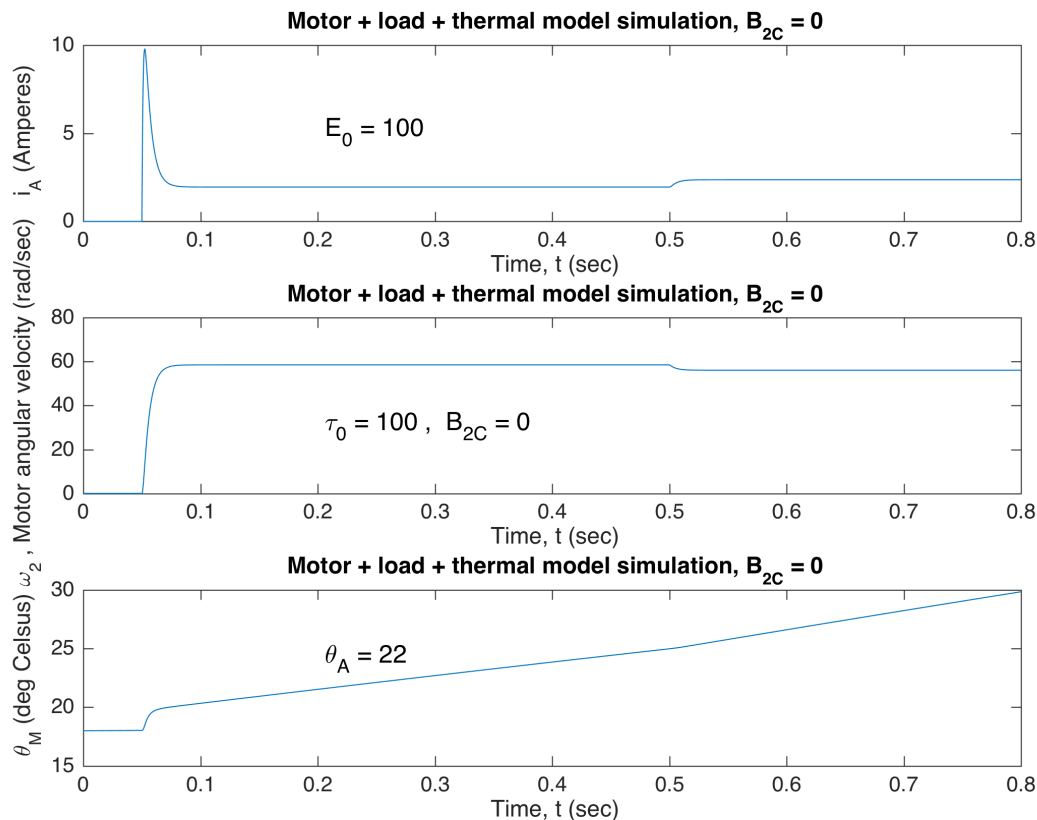

Figure 1: MATLAB plot similar to yours for Q. 2
2. Run your model for 1.2 seconds, with e_{in} defined as a 120 volt step applied at $t = 0.05$ sec. and τ_{LE} defined as a 80 N-m step applied at $t = 0.5$ sec., using `ode45m` to produce a result *similar* to that shown in Fig. 1 (including labels, parameter values etc. to provide full documentation of the run, as shown. For this use either the `text` command or `gtext` command which allows you to place text with a mouse click. Define the text in the form `['E_0 = ', num2str(E_0,3)]` so you are sure the value printed is correct – if you insert the value manually (e.g., `gtext('E_0 = 120')` you are sure to forget to change it sometimes! Time the run by putting the command `timer = clock` before the call and `Tsim1 = etime(clock,timer)` immediately after, and record the number of integration time steps taken: